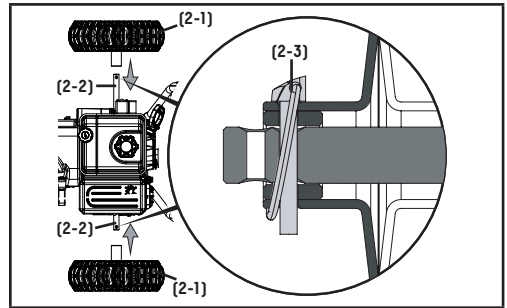

Figure 2
2. Slide the wheel (2-1) onto axle (2-2) as the arrow shows. Tread pattern should face forward. Place axle pin (2-3) into wheel. The axle has a center hole to attach the wheel to the axle (which connects to the drive train). Once inserted, fold ring around axle to hold in place (Fig. 2).